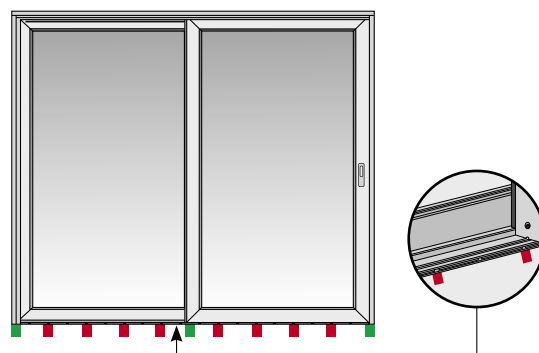

Figure 7
6. Begin by loosely shimming the element in the wall opening using three shims: one under the mullion and one under each side frame (figure 7 with green shims).
11. Shims must be placed under the threshold at every second drainage hole in the bottom rail track – corresponding to every 200 mm (figure 7 with red shims).